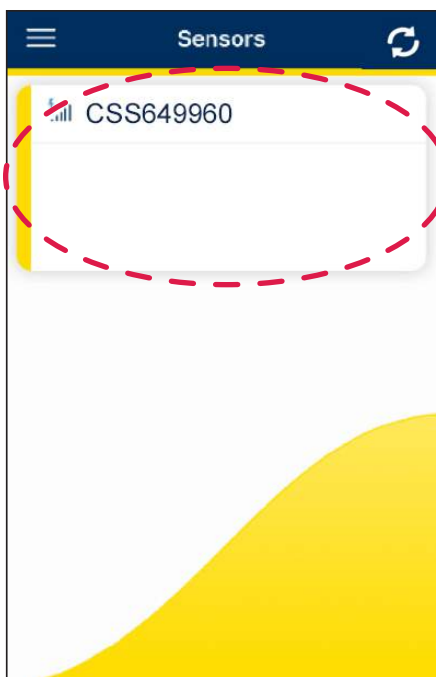

Figure 8
1. Select the new “unregistered” sensor (see figure 8).